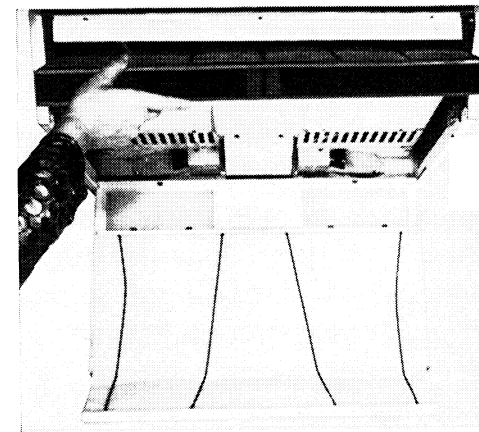

Abb. 14
e) Remove plastic cover from fresh-air filter unit and insert it with the larger filter area pointing upwards in the appliance (fig. 14).